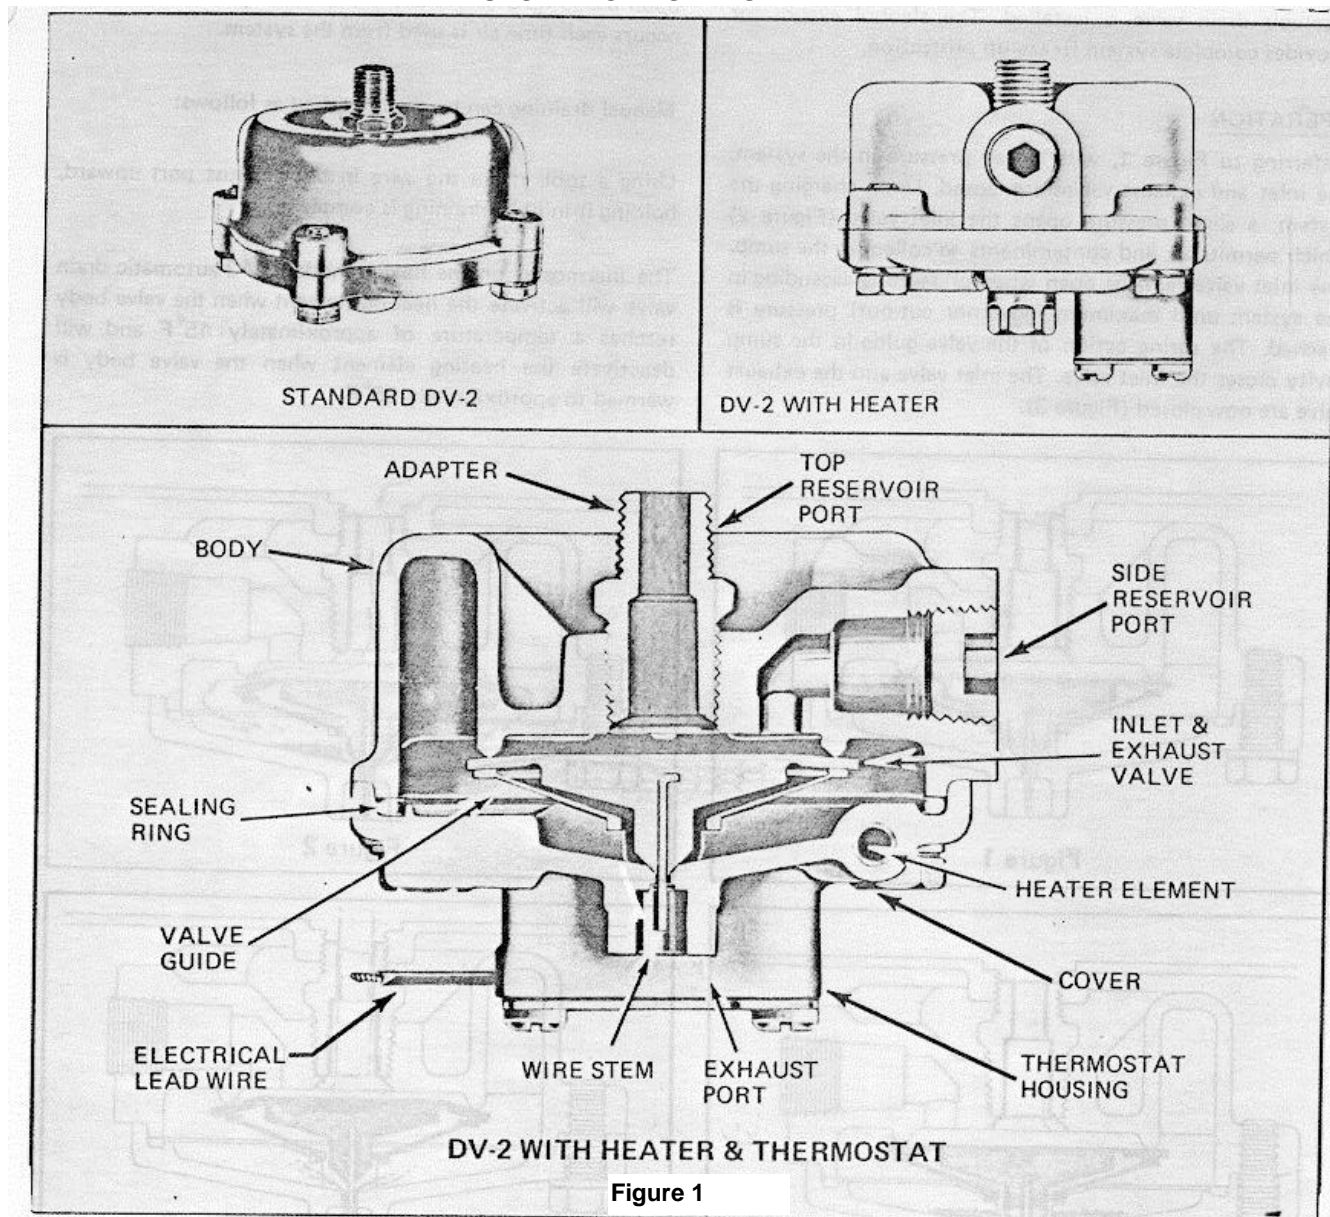

Figure 1
Referring to Figure 1, with no air pressure in the system, the inlet and exhaust valves are closed. Upon charging the system, a slight pressure opens the inlet valve (Figure 2) which permits air and contaminants to collect in the sump. The inlet valve remains open when pressure is ascending in the system until maximum (governor cut-out) pressure is reached. The spring action of the valve guide in the sump cavity closes the inlet valve. The inlet valve and the exhaust valve are now closed (Figure 3).
1. The ball type (Figure 1).